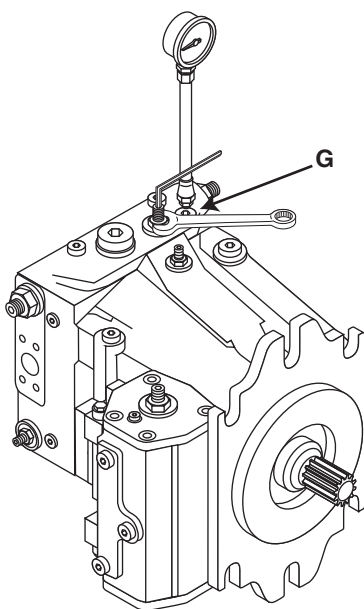

Figure 24. Charge Pressure Adjustment
1) Install 600 PSI gage in “G” port on the drive pump (Fig. 24). The gage will require a size 10 male boss end to plumb to the gage port. With engine at low idle, the charge pressure should read 400 psi.